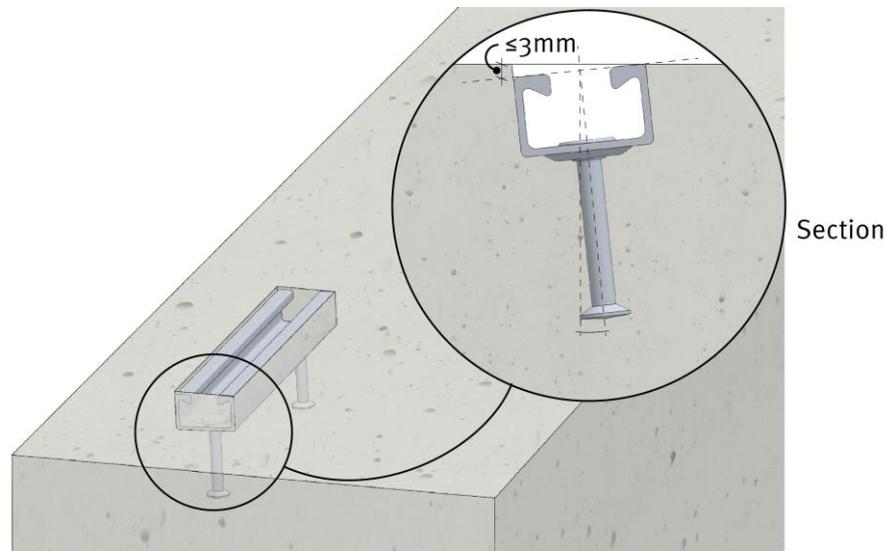

Figure 19
- b) The channel has rotated about its cross-sectional axis (Figure 19).
- b) When the anchor channel is rotated about its cross sectional axis the maximum limit it can be out of alignment is 3mm from highest to lowest points on the channel (Figure 19).